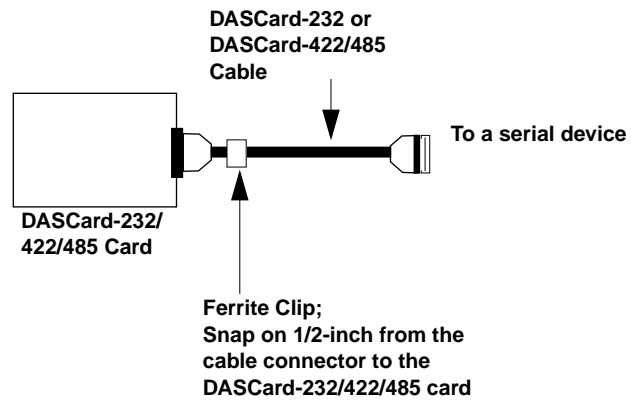

Figure 3. Snapping on the Ferrite Clip
1. Position the supplied ferrite clip about 1/2-inch from the end of the cable connector attached to the DASCARD-232/422/485 card, as shown in Figure 3.